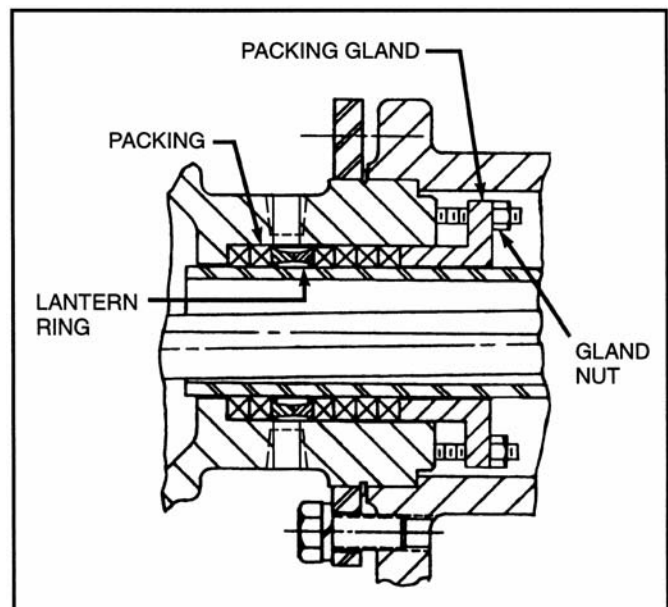

Figure 4-1. Cross Section of Stuffing Box
Packing gland nuts should be evenly adjusted so they are little more than finger tight. (See fig. 4-1.) Over-tightening the packing gland may result in premature packing failure and possible damage to the shaft and gland.
5. Replace packing gland (21) and secure with packing gland nuts. (See fig. 4-1.)